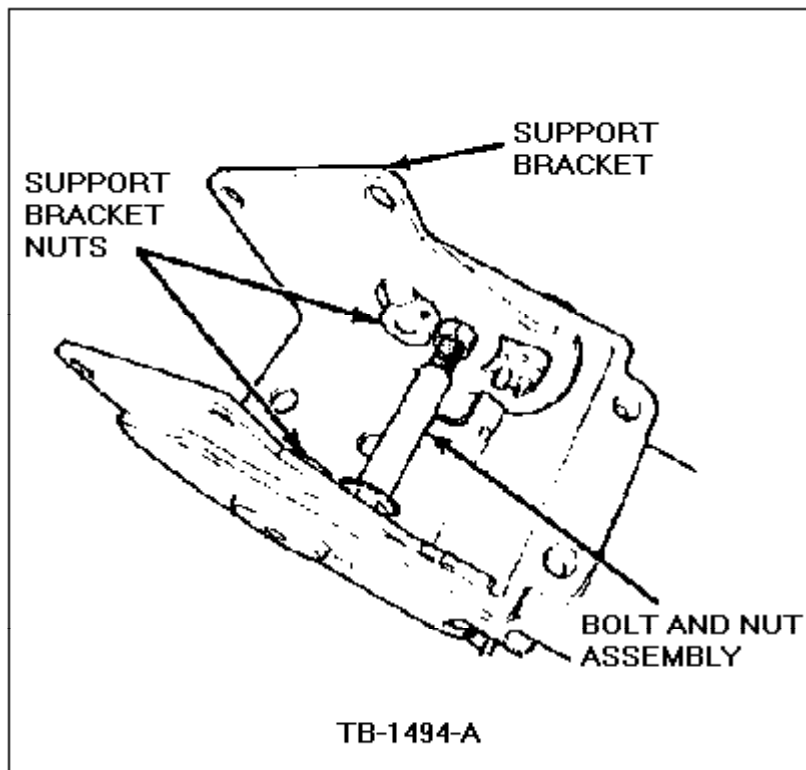

Figure 27 - Article 90-5-10
4. Place a 1/2" diameter by 3" long bolt and nut between the support bracket flanges, Figure 27.
5. Use the bolt and nut as a tool to spread the support bracket flanges, Figure 27.